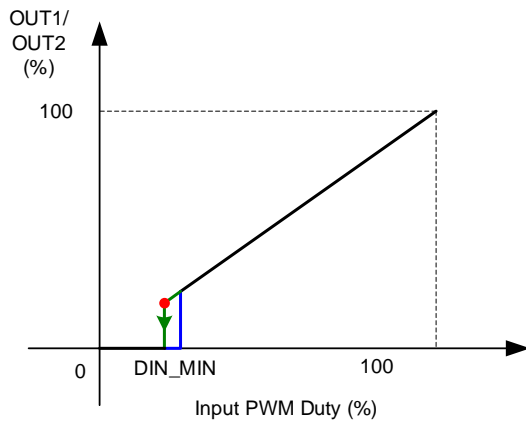

Figure 2: Speed Curve (SPD\_ZERO = 1)
**Mode 1:** If SPD\_ZERO = 1, then the device stops switching once the input duty cycle drops below the value set by DIN\_MIN (see Figure 2).